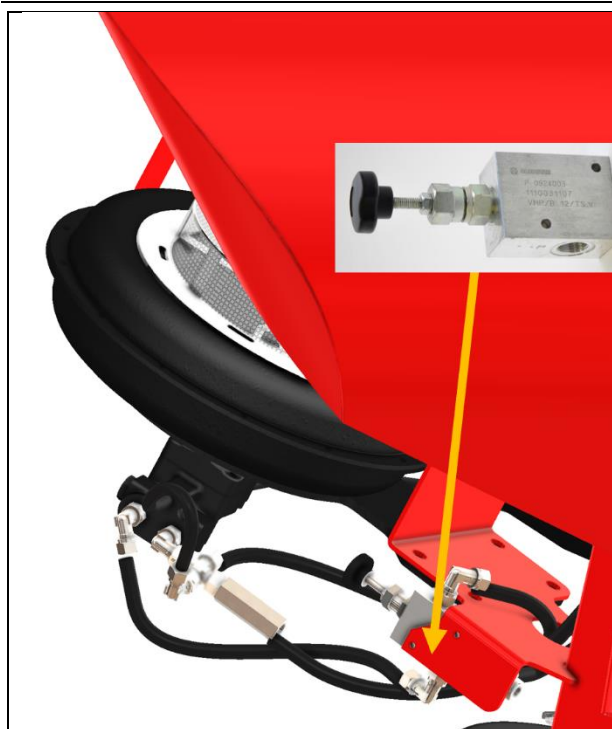

Fig. 49 : Fan hydraulic valve
- Use the Horizontal axis of the joystick see Fig. 49.